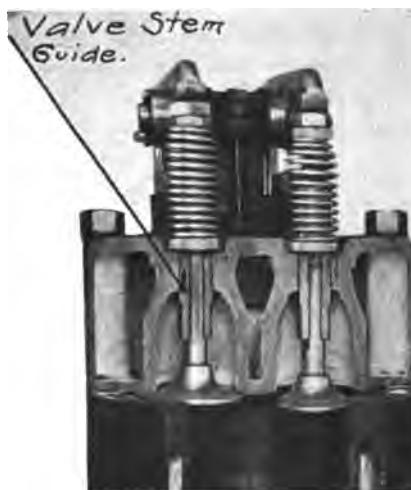

Fig. 14
- 137** — The valve stem guide, which is the part subjected to wear, can be readily removed by driving it out of the cylinder head and a new one can then be inserted. Fig. 14 shows a cross-section view of the cylinder head and the valve stem guide with the valve in place.